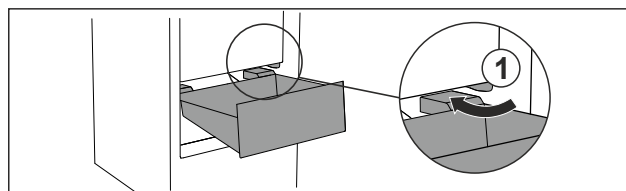

Fig. 91
- Guide drawer in at an angle around the stoppers Fig. 91 (1).